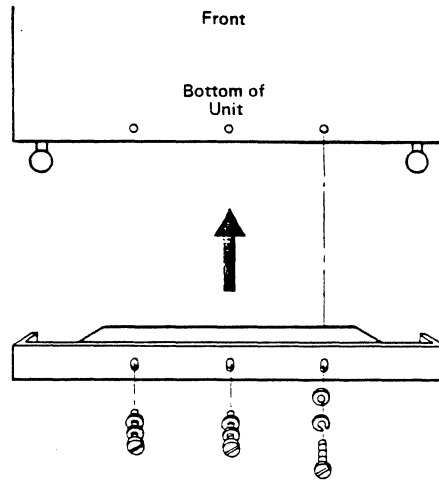

Figure 7-18. Installing the Front Ground Plates
21. On each unit install the ground plates as follows. Open the front, bottom door and slide plate (PN 6431182) under the front of the machine below the door gasket (Figure 7-18).